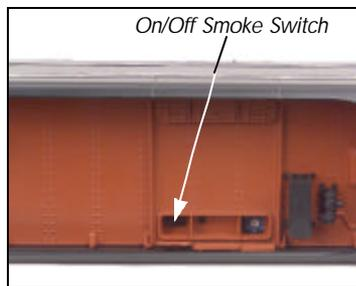

Figure 5 - Smoke Switch
■ If you choose not to add the fluid (or have already added the fluid but choose to run smoke free), turn off the smoke unit switch located under the tender body. (see figure 5) Failure to either add fluid to the unit or to turn it off may damage the smoke unit heating element and/or wicking material.